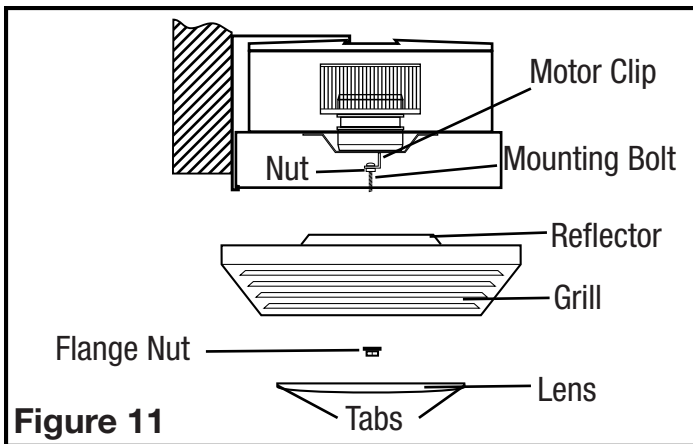

Figure 11
3. Install the grill/lens/light reflector, by first removing the lens from the grill (there are two tabs on either side that hold the lens in place). Then remove the acorn nut and the lock washer which are installed on the reflector mounting bolt in the fan housing. Adjust the height of the reflector mounting bolt so that the grill will be tight up against the finished ceiling and less than 1/4" of the reflector mounting bolt protrudes through the reflector. Secure the reflector bolt's position by tightening the factory installed nut against the motor clip (**Figure 11**).